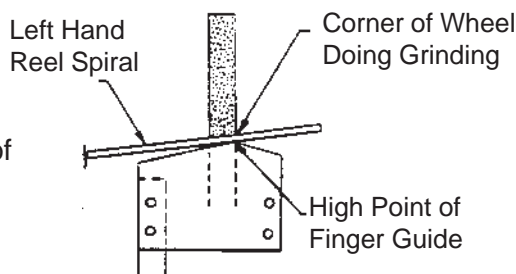
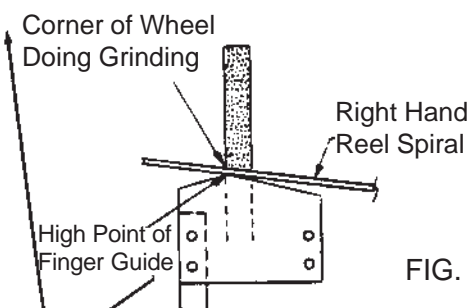
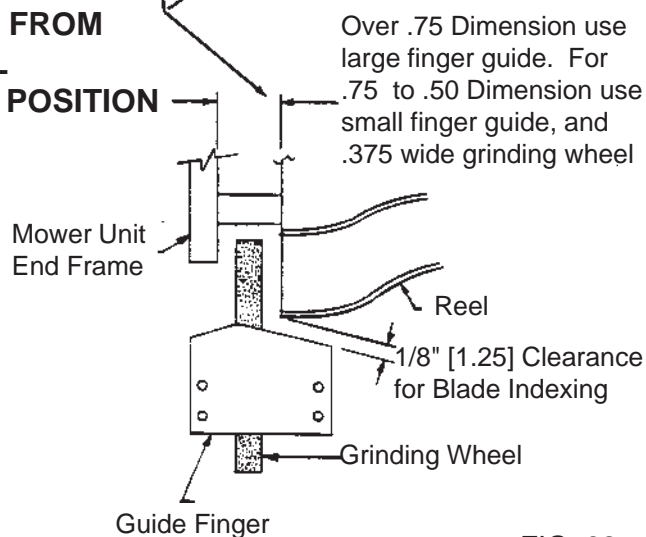

FIG. 60
FIG. 61
FIG. 62
- B. Check to see if your mowing unit is a left hand or right hand spiral. See reel spiral definition above. **NOTE:** As you look into the guide finger in FIG. 60 it shows a reel with reverse helix reel spiral. The high point of finger guide is on the right hand side of the grinding wheel viewed from the finger mounted side. See FIG. 61 for standard helix. Most mowing units are standard helix so traverse your carriage to the right hand side of reel for starting position. Traverse carriage until there is at least .125 (1/8") clearance to the guide finger for indexing. See FIG. 62. Set the right hand traverse stop for this carriage reversing position. Traverse to the other end of the reel blade until the guide finger is beyond the point of grind by approximately .125 (1/8") to .75 (3/4"). Set the left hand traverse stop for this carriage reversing position.
THE HIGH POINT OF THE GUIDE FINGER MUST ALWAYS BE AT THE CORNER OF THE GRINDING WHEEL THAT IS MAKING CONTACT WITH THE REEL. SEE FIG. 60 & 61.
ROTATE FINGER GUIDE END FOR END WHEN REEL SPIRAL IS IN THE OPPOSITE DIRECTION AS SHOWN IN FIG. 60 & 61.
- A. If the reel blades are too close together or the clearance between mower unit is too narrow and will not permit you to use the large reel finger guide, it will be necessary to use the alternate stamped finger guide and a 3/8" wide grinding wheel (Part No. 3700363). See FIG. 62.